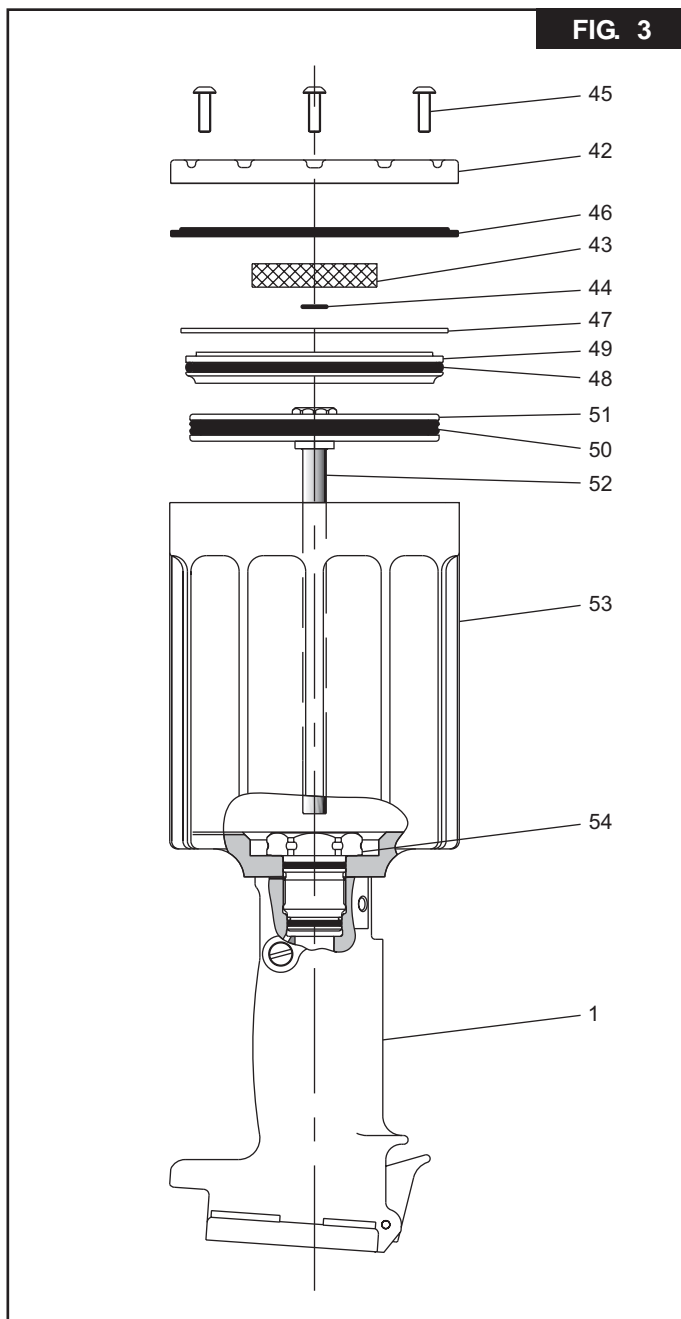

FIG. 3
17. Hold tool inverted in vice. Unscrew three Button Head Screws (45) with 1/8 hex key. (Fig. 3)
18. Remove Muffler End Cap (42), Bottom Exhaust Gasket (46), Muffler (43) and O-ring (44). (Fig. 3)
19. Remove Retaining Ring (47) from Cylinder Assembly (53). (Fig. 3) **NOTE:** Tap cylinder head down into cylinder for easier removal of retaining ring.
20. Screw Button Head Screws (45) into Cylinder Head (49). Carefully pry under screws to remove cylinder head.
23. Grip Self-locking Nut (41) under Air Piston (51) with pliers and pull piston and rod assembly from handle and cylinder assembly. (Fig. 3 & 4)
24. With a 1 3/8 socket and extension, remove Gland Assembly (54). Handle and cylinder will now separate. (Fig. 3)
25. Push Hydraulic Piston (31) out of handle. Push out from top to bottom.
2. Push Air Piston/Rod assembly with Quad Ring (50) in place into Air Cylinder until it bottoms at top of Cylinder. (Fig. 3)
4. Push Screw (32) with O-ring (35) in place through Hydraulic Piston (34) and screw into top of piston rod. Hold Self-locking Nut (41) with 9/16 socket and extension and torque Screw (32) using 7/64 hex key to 55 - 60 in. lbs.
5. Hold handle in vise with bottom facing up. Push Cylinder Head (49) with O-ring (48) in place squarely into cylinder. Install Retaining Ring (47). (Figs. 3 & 9)
6. Position O-ring (44) and Muffler (43) on center of Cylinder Head (49). Place Gasket (46) on Cylinder Assembly (53). **NOTE: Lip must face Muffler End Cap (42).** Place Muffler End Cap (42) on top of Gasket (46), and secure with 3 Button Head Screws (45) using 1/8 hex key. (Fig. 3)